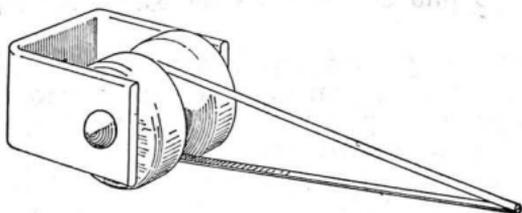

Fig. 3
- (4) Bend the flat sides of the dead-end wire together with the ends even, as shown in Fig. 3 and push them into the appropriate end of an S Sleeve until the constriction in the sleeve is reached.